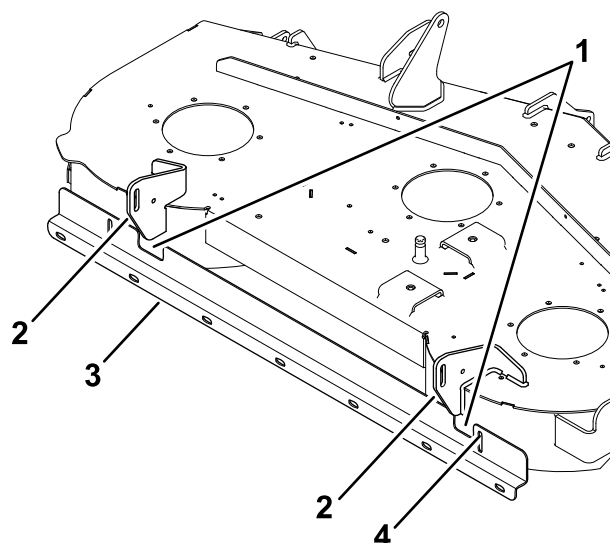

Figure 2
- Using the bracket as a template, mark and drill a hole in the right baffle curve using a drill bit (9/32 inch) as shown in Figure 2.